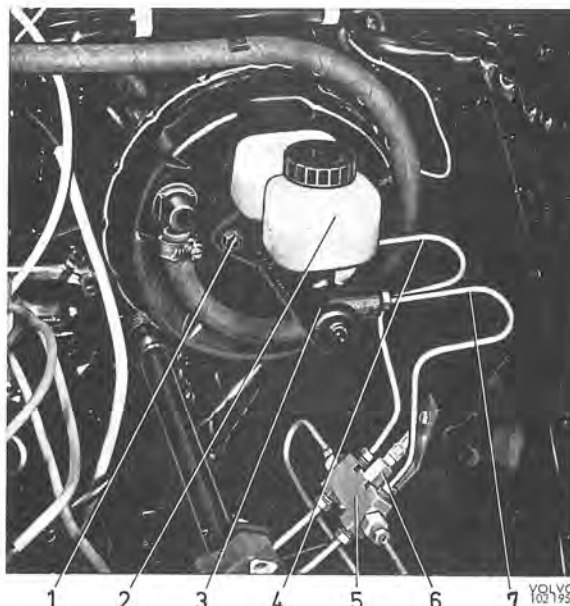

Fig. 5-54. Master cylinder fitted
- Connect up the lines, see Fig. 5-54. Depress the pedal and tighten the nuts for the lines when fluid free from air forces its way out.